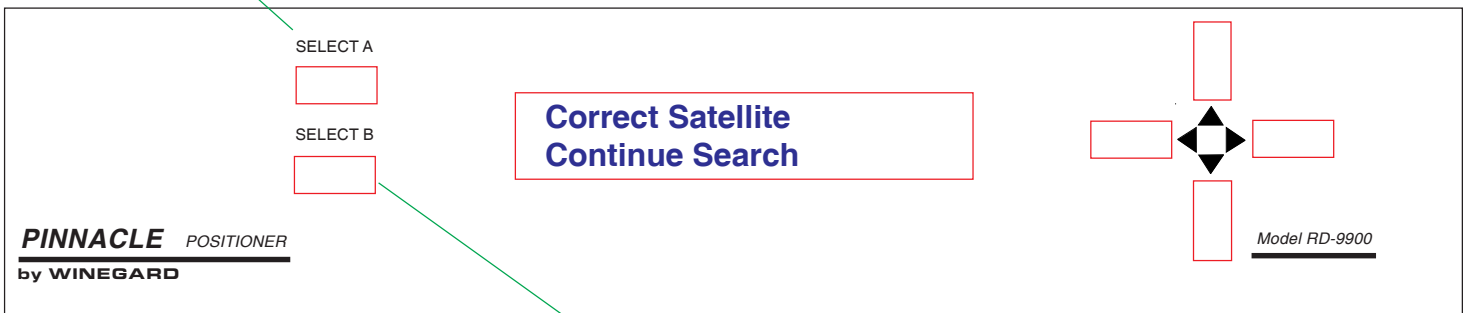

Figure 16
7. Verify that system has found correct satellite (you will get a picture). Since the DBS services use a digital signal and the satellites are only separated by 9°, the system can find the wrong satellite. Press [SELECT A] if correct satellite was found, Figure 16. You are now ready to watch satellite TV! If the wrong satellite was found, press [SELECT B] to continue the search.